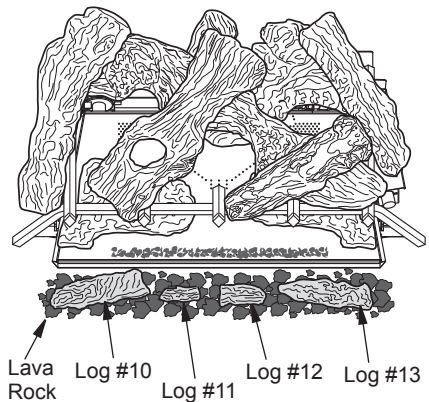

Figure 25 - Installing Lava Rock and Logs #10, #11, #12 and #13
9. Place lava rock on the floor in the front of the burner (see Figure 25).
10. Place log #10, #11, #12 and #13 on top of lava rock in front of burner (see Figure 25).